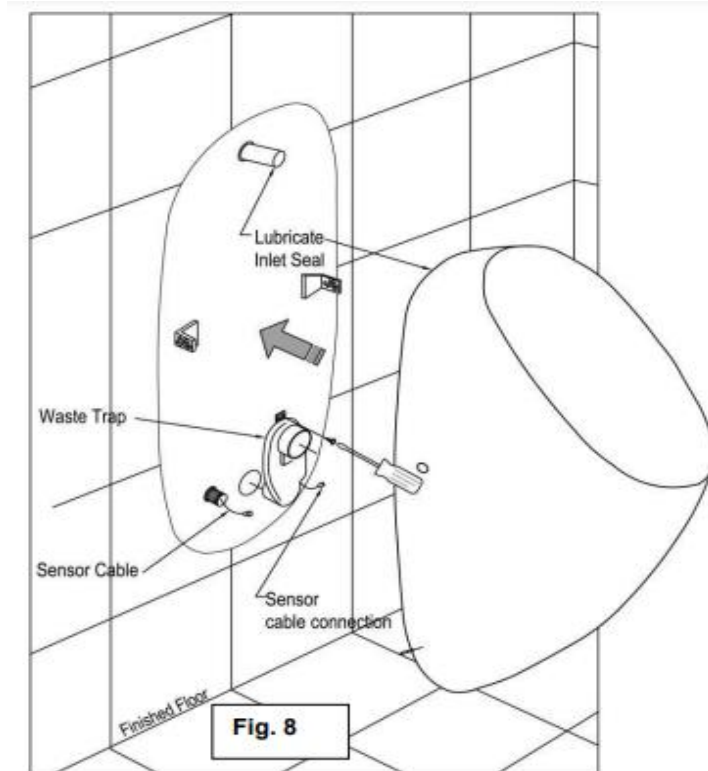

Fig. 1.26: Fixing waste trap to wall
5. Fit kee-seal to waste trap and lubricate before gently pushing into 50mm PVC DWV pipe so trap finishes flush with face of wall. Fix waste trap to wall with single screw. (Refer Fig. 1.26)